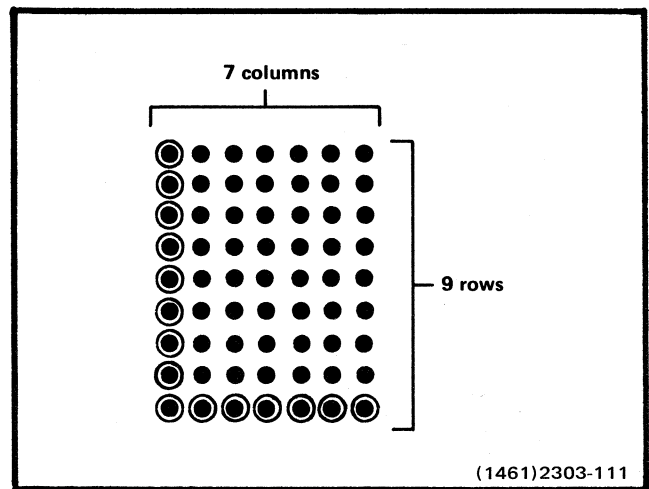

Fig. 5-6. Dots indicate matrix positions for character writing. Circles indicate which dots are written to form the letter L.
3. Turn the writing beam on at positions indicated by the ROM. The combination of written dots forms the character being written. See Fig. 5-6.
When the outputs of the Counter went low, they caused the output of the Y Matrix Digital-to-Analog to shift the writing beam up to Row 0 position. However, because of the frequency response of the beam deflection circuits, the writing beam cannot position from the bottom of one column to the top of the next column as rapidly as the Counters can indicate this new position. Therefore, beam settling time is provided by not using Row 0 through 6 for dot writing. Row 7 through 15 selection causes the Multiplexer to examine the dot information from the ROMs as before. Since Column 1 is now selected, dot writing commands can be expected for any character writing that requires a dot (or dots) in Column 1. (See Fig. 5-6.) The CIP signal enables the Write Dot circuit during character writing.
Refer once again to Fig. 5-6 and notice that the letter "L" is shown in the matrix. Nine clock pulses provide nine successive WRITE DOT pulses to the Z Axis circuit when scanning column 1. The Z Axis signal is turned on and off to write the dots as the Row Counter steps through all rows in Column 1, with the Y MAT changing the beam to each new dot position. (For more information on how the Z signal is controlled for character writing, see the Z Axis Control circuit description). When the row count once